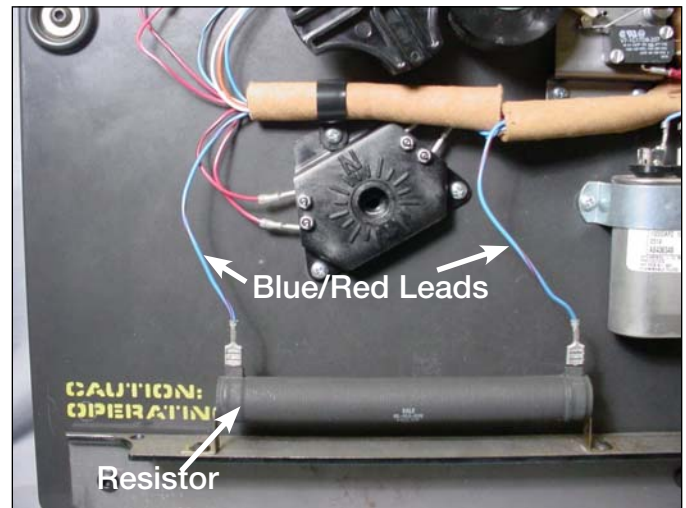

Figure 32.
- Connect the blue wires with red strips to the 40 ohm resistor by pushing the female connector onto the resistor terminals. See Figure 32.